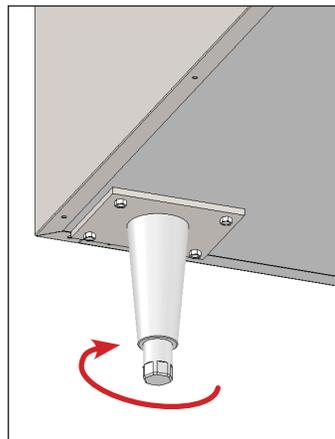

Fig. 2. Turn the bottom stem to level the cabinet.
6. If the unit is not level, gently lift and support the low end of the unit. With an adjustable wrench, adjust the bottom stem of the leveling leg as needed to level the unit. See fig. 2.